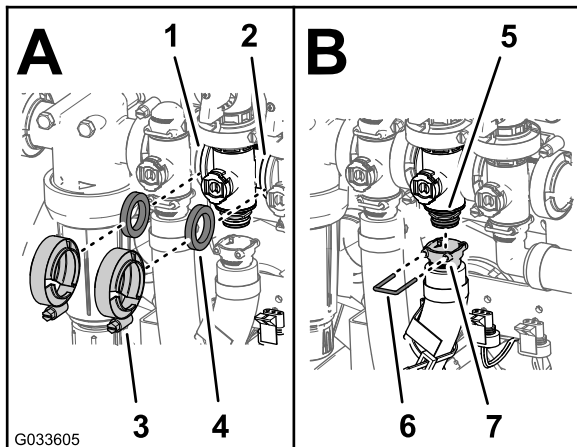

Figure 113
4. Assemble the rate control valve, gasket, and agitation-valve manifold with a flange clamp and tighten by hand (A of Figure 113).
5. Align a gasket between the flanges of the agitation-valve manifold and the master-boom valve (A of Figure 113).
6. Assemble the agitation-valve manifold, gasket, and master-boom valve with a flange clamp and tighten by hand (A of Figure 113).
7. Assemble the outlet fitting onto the coupling fitting at the at the bottom of the manifold for the agitation valve (B of Figure 113).
8. Secure the outlet fitting to the coupling fitting by inserting a retainer into the socket of the outlet fitting (B of Figure 113).
2. Assemble the agitation bypass valve, gasket, and agitation-valve manifold with a flange clamp and tighten by hand (Figure 113).
3. Align a gasket between the flanges of the rate control valve and the agitation-valve manifold (A of Figure 113).